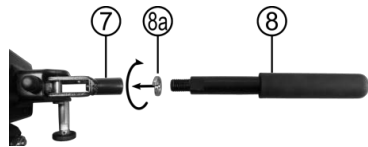
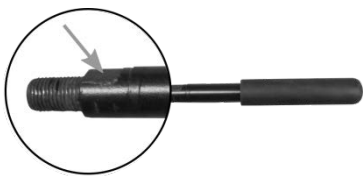

Figure 7: Mounting the tension lever
Figure 8: Spanner flats
Fit the spring washer (8a) onto the thread of the tension lever (8). Screw the tension lever into the tension lever mount (7) of the quick closure, Figure 7. Screw the tension lever (8) into the tension lever mount (7) of the quick closure. Turn the thread fully into the holder and tighten the tension lever extension using a wrench (the tension lever has a spanner flat with a key width of 17, see Figure 8).